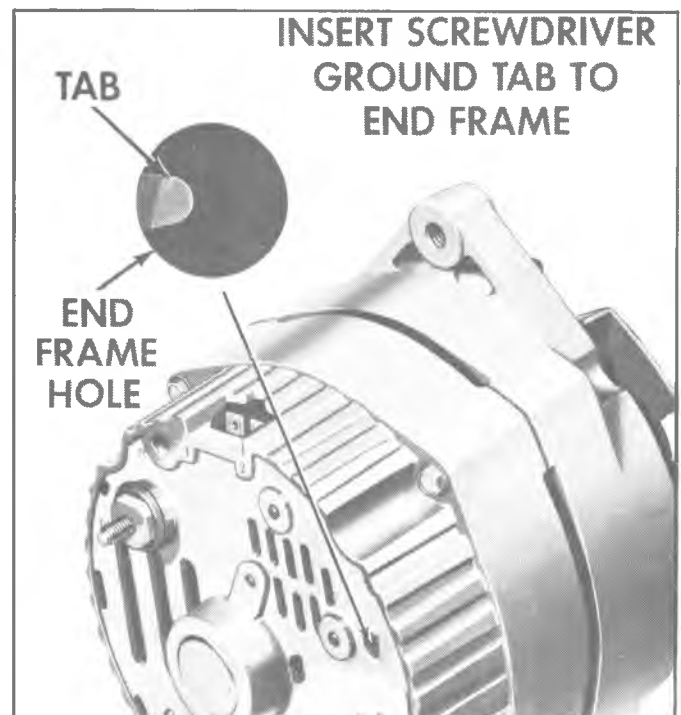

Fig. 7C—Delcotron End View
- If lamp lights, remove ground at No. 1 terminal and with No. 1 and No. 2 terminal leads connected at generator, insert screwdriver into test hold (fig. 7C) to ground winding.